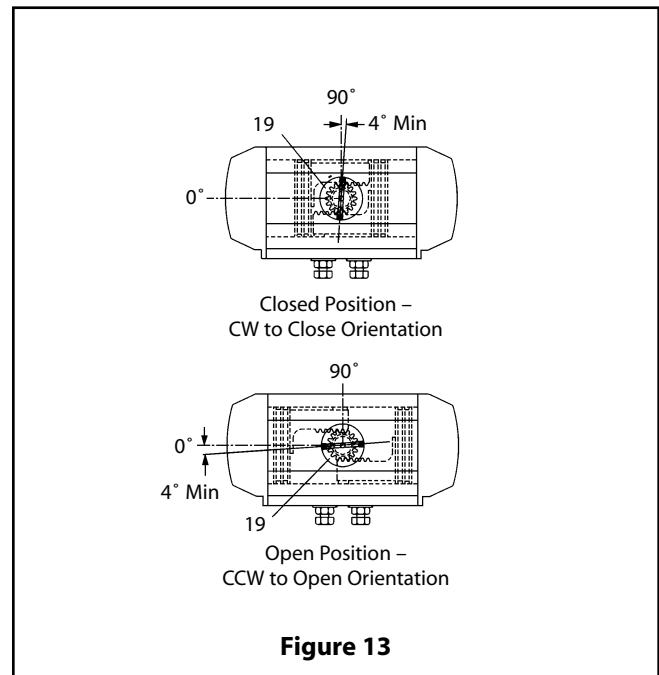

Figure 13
- H. Temporarily install the position indicator (19) onto the shaft (60) to determine whether the correct stroke is obtained. Verify that the slot in the top of the position indicator (19) will rotate a minimum of 4° beyond the 90° vertical centerline of the actuator body (50) and a minimum of 4° beyond the 0° horizontal centerline of the actuator body as shown in **(Figure 13)**. If the proper stroke is not obtained, remove the pistons and repeat from step 2d. Once the proper stroke is verified, remove the position indicator (19).